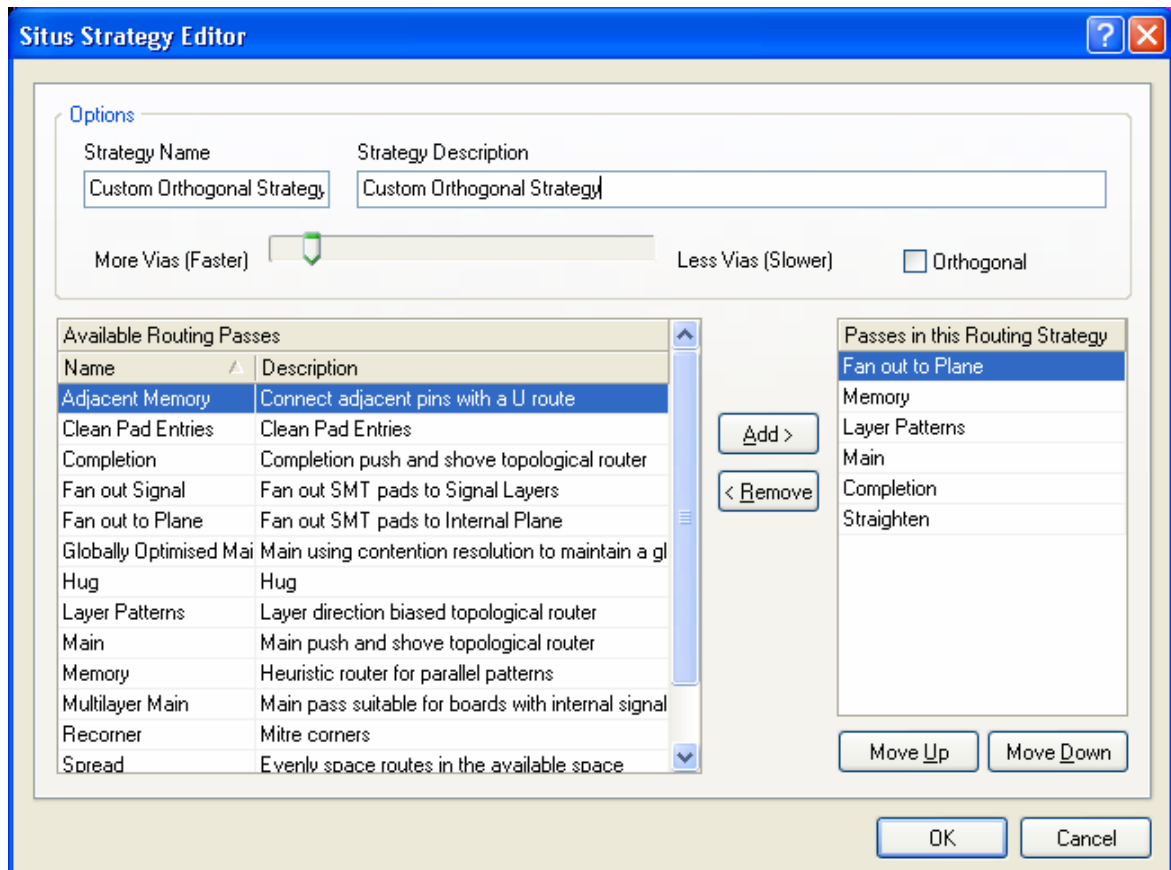

Figure 20. Custom routing strategy using cheaper vias and orthogonal routing
4. Now unroute (**Tools » Un-route**) so it can be rerouted using a custom strategy. To do this, duplicate the Default 2 Layer Board strategy, set the **More Vias** slider to close to the left end, enable the **Orthogonal** checkbox, and add a **Recorner** pass before the **Straighten** pass (as shown in Figure 20).